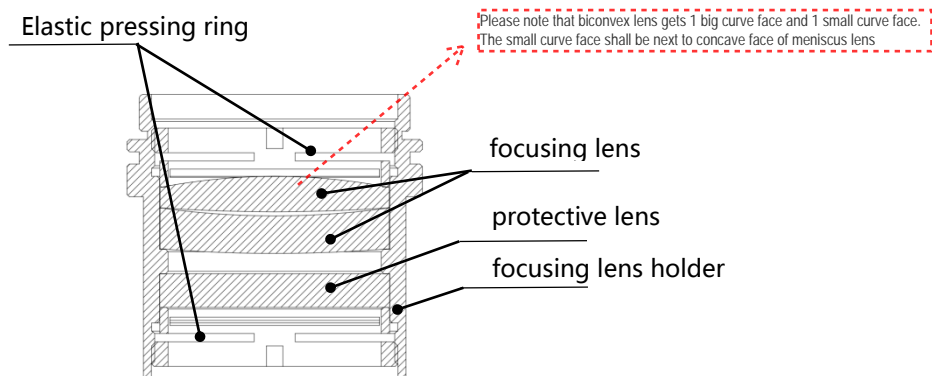

Figure 6.9 - Installation diagram of focusing lens
- As the direction shown in figure 6.9, put the focusing lens and the spring pressing ring in the lens holder carefully and tighten the pressing ring properly;